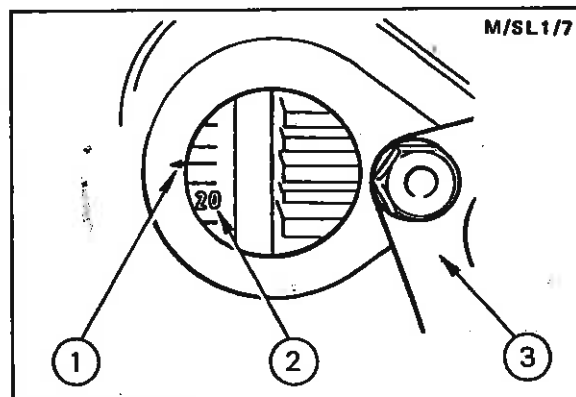

Fig. 32 - Engine Timing
1. Remove the timing aperture cover from the flywheel housing and turn the engine in the normal direction of rotation until the specified number of degrees before T.D.C. on No. 1 cylinder is indicated against the timing mark on the edge of the timing aperture (Fig. 32). No. 1 cylinder must be on the compression stroke.